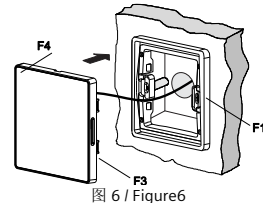

图 6 / Figure 6
- 将 F3 和 F4 一同安装到安装框上并将其压紧 (参见图 6)。
- Slip the wall switch's main module (F3) together with (F4) onto the mounting frame and firmly press them together (see figure 6).